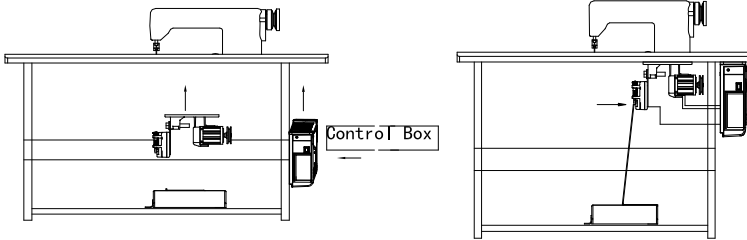

Fig.1-2
**Step 2:** Install the motor (see Fig.1-2) and then tighten the lifting bracket.